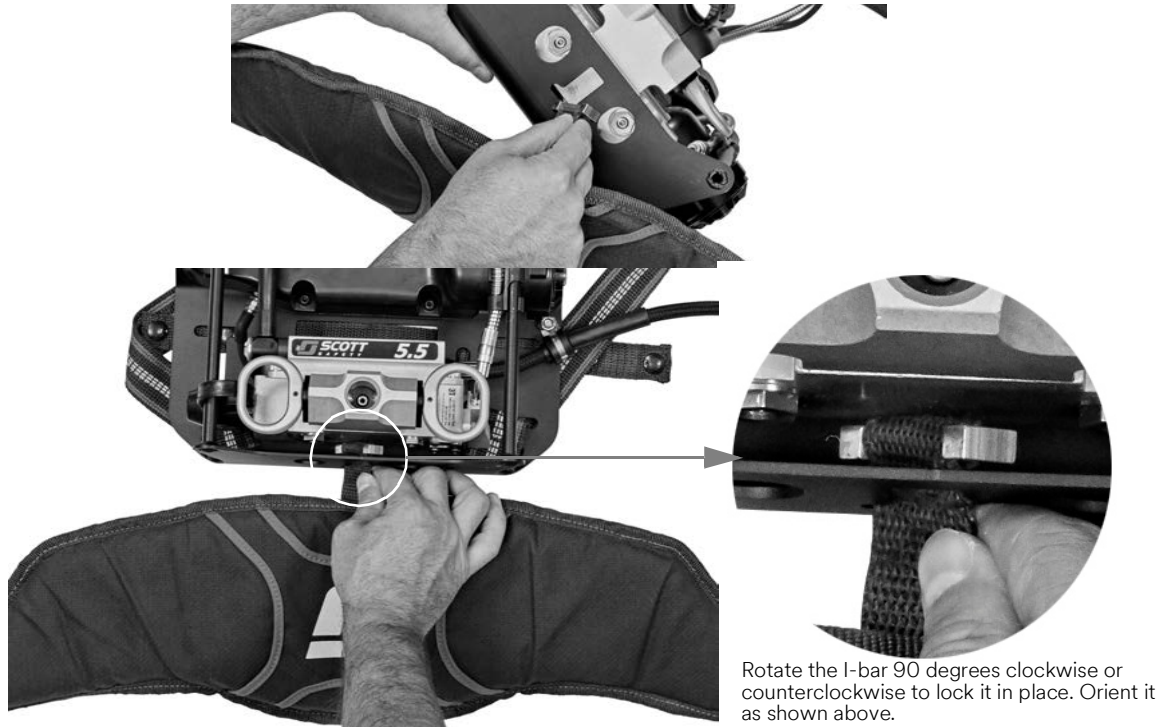

Figure 2-19 Inserting the metal I-bar to attach the waist pad to the backframe
- a Insert the metal I-bar into the slot at the base of the backframe and rotate it 90 degrees clockwise or counterclockwise to “lock” it in place. See Figure 2-19 for proper orientation of the I-bar.